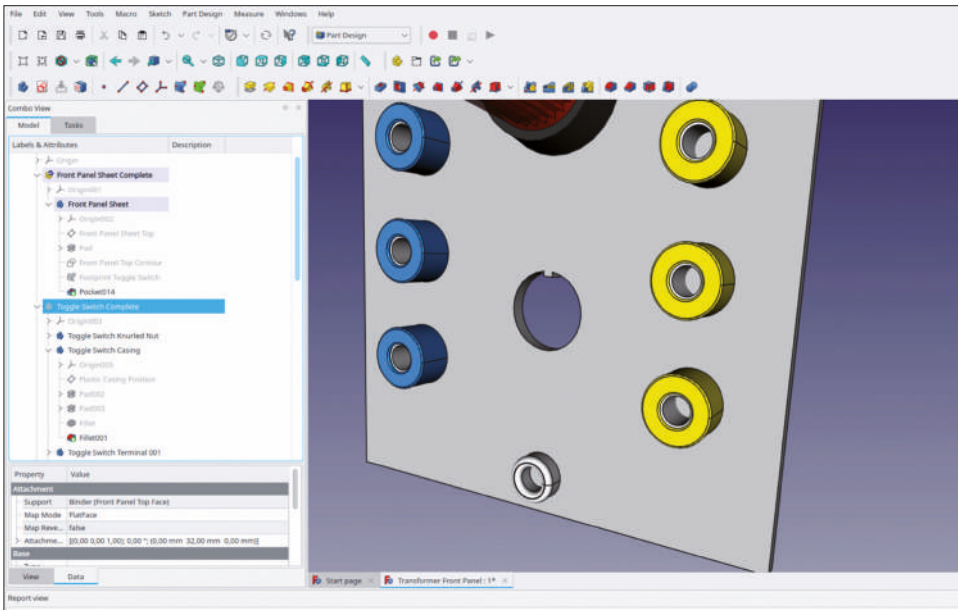

Figure 9-28
- In order to check for success, temporarily hide the toggle switch and show the front panel (with the SPACE key, Figure 9-28).